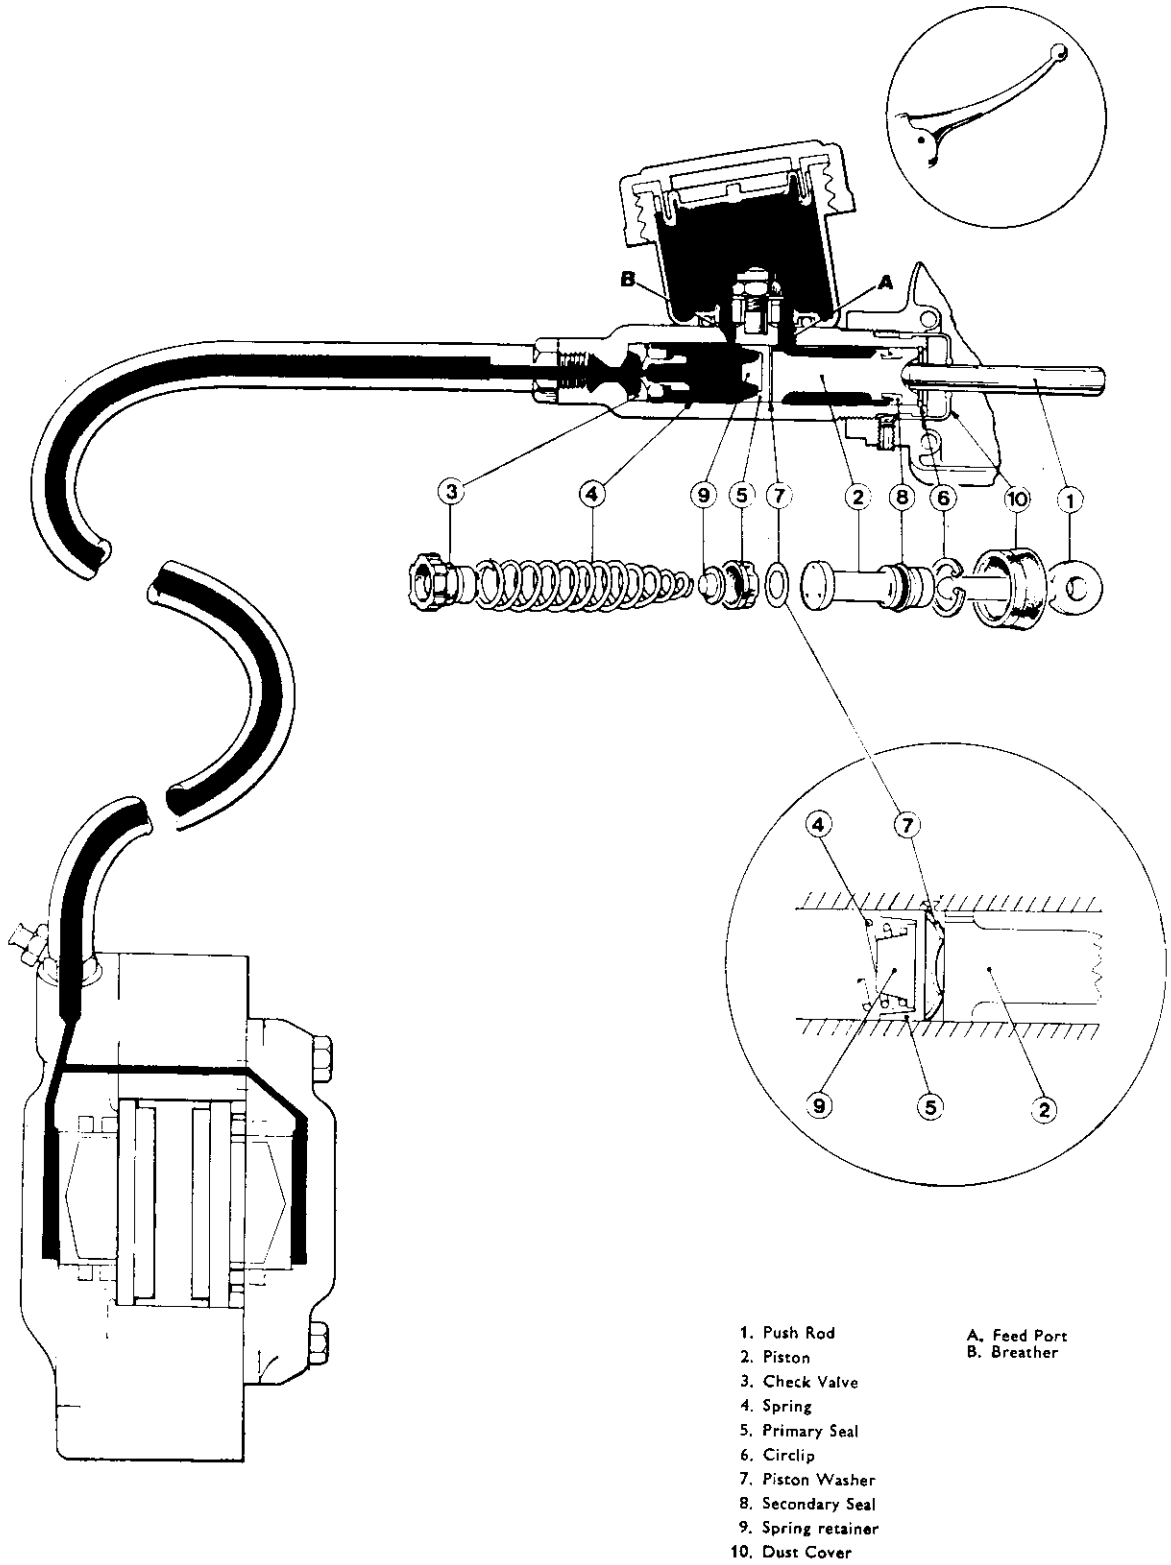

Fig. F30. Hydraulic flow diagram
The master cylinder is mounted in the right hand handlebar electrical switch. It consists of a fluid reservoir bolted to a cylinder body containing a piston, seals and other parts as shown in Fig. F29. With reference to the hydraulic flow diagram (Fig. F30) and the exploded view (Fig. F29) the operation of the cylinder is as follows:— When the front brake lever is pulled on the push rod (1) moves the piston (2) down the bore. The displaced fluid in front of the piston is forced through holes in the check
Fit the secondary seal (8) onto the piston (2) so that the lip of the seal faces towards the head (drilled end) of the piston. See Fig. F29. Gently work the seal around the groove with the fingers to ensure that it is properly seated. Fit the spring retainer (9) onto the small end of the spring (4) and the check valve (3) onto the large end. Insert the spring assembly onto the cylinder bore, large end first. Insert the primary seal (5) into the cylinder bore, lip foremost (See Fig. F29), taking care not to damage or turn back the lip. Insert the piston washer (7) into the barrel with the dished side towards the primary seal (5) (See Fig. F30) followed by the piston, head (drilled end) innermost, see Fig. F29. Push the piston inwards with the end of the push rod and refit the circlip (6). Make sure that the circlip beds evenly in its groove. Refit the boot (10) by stretching it over the barrel. Refit the reservoir bowl, not forgetting the 'O' ring and test the cylinder by filling the reservoir and pushing the push rod and piston inwards and allowing it to return unassisted. After a few applications fluid should flow from the outlet connection at the cylinder head.
If necessary refit the return spring. Empty the cylinder of fluid and proceed to re-assemble the cylinder barrel into the switch housing. At this stage the final position of the cylinder barrel in the housing must be determined. Here reference must be made to Fig. F30 (i). It will be observed from Fig. F30(i) that the lip of the primary seal (5) must be $1/16$ of an inch behind the breather port and the reservoir set at an angle of 10° to the vertical. The milled flats on the threaded end of the cylinder are machined relative to the 10° position and the appropriate one must be used when assembly takes place.